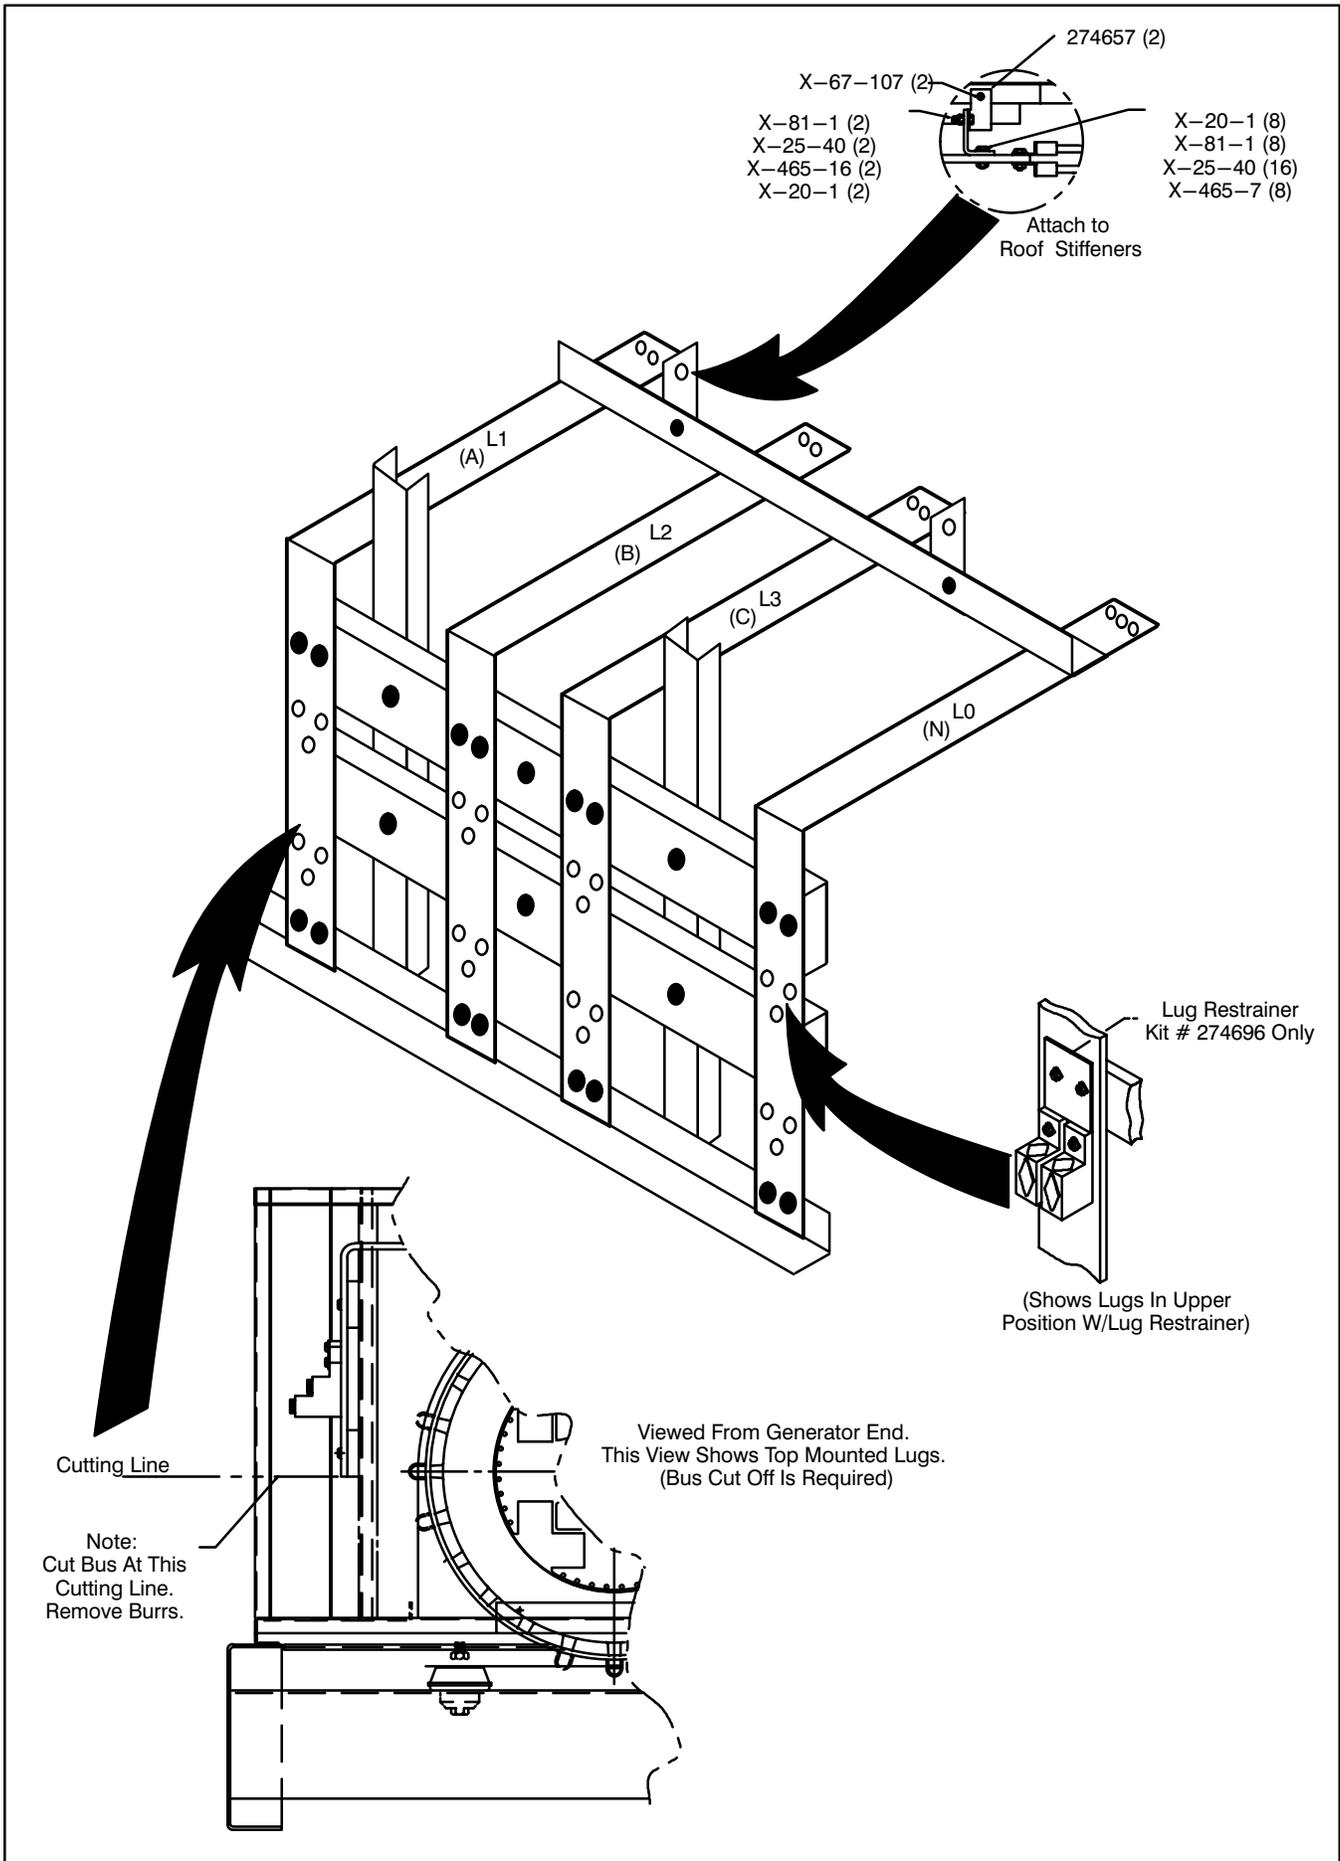

Figure 1. Assembly
- If terminal lugs are to be mounted in lower positions, mount the longer fiberglass insulating angle/support bracket (272871) to the floor of the junction box, as shown in Figures 1 and 2.
- Mount the two insulating channels (274662) and bus supports (274659) to the junction box support channels, as shown in Figures 1 and 2.
- Mount bus bars (A-274870) to bus supports. Final tighten all bus bar mounting hardware. If terminal lugs are to be mounted in upper positions, cut off bus bars below the lower support, as shown in Figure 1.
- Mount terminal lugs to the bus bars in either upper, or lower, position as shown in Figures 1 and 2.